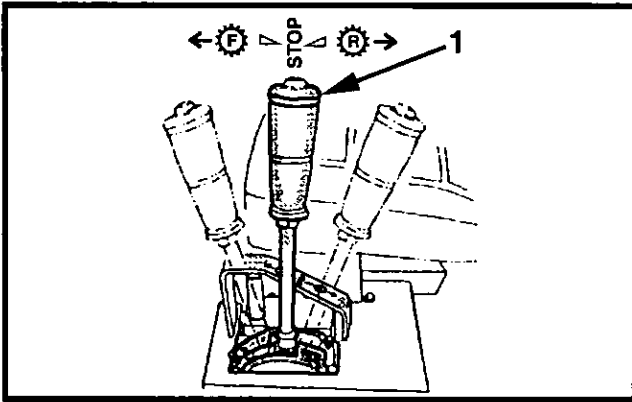

Figure 4-5 Propulsion Lever STOP Position
4. Position propulsion control lever to the **STOP** position (1, Figure 4-5).
9. To confirm that the engine will only start with propulsion control lever (1, Figure 4-5) in the **STOP** position, move lever from the **STOP** position in any direction.